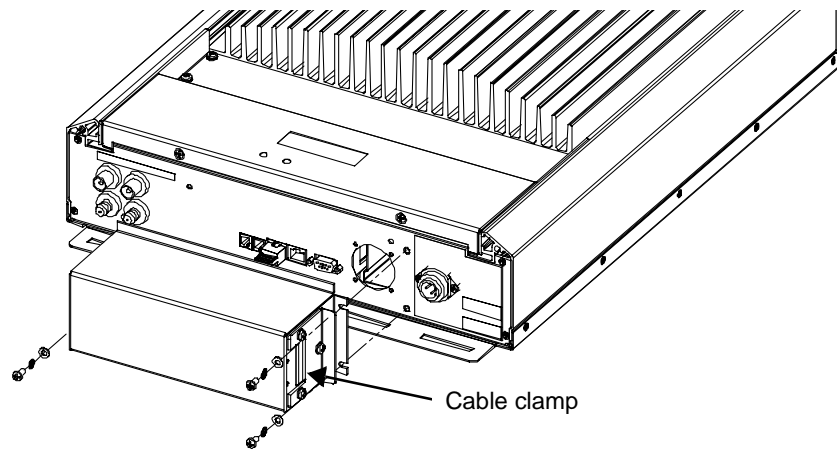

Figure 3-10 Replacing the Comm Port Cover
1. Remove the comm port covers from all inverters. See Figure 3-10.